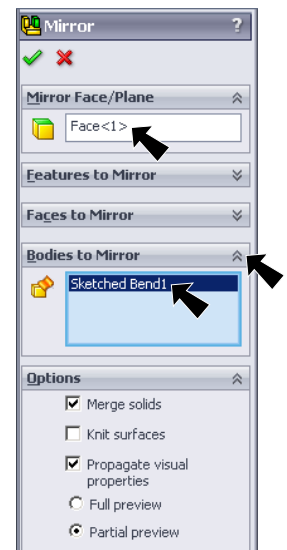

Fig. 20
- under **Mirror Face/Plane**, Fig. 20